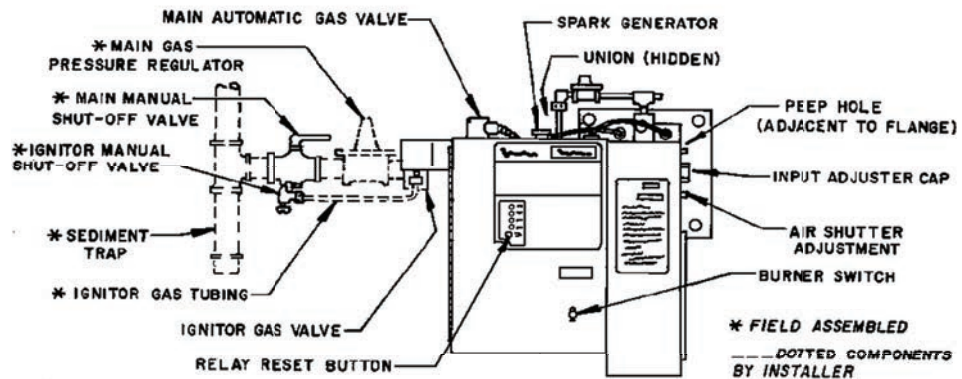

Figure 3 - Control Components
Use pipe joint compound resistant to liquid petroleum gases when using either NATURAL or PROPANE gas. Piping must comply with the local and national codes. If the burner piping must be rearranged because of space limitations, be sure to carry out the general configuration shown in Figure 3.
10. Remove the Input Adjuster Cap (see Figure 3) and turn the Main Gas Input Adjusting Screw until the desired input rating is reached (refer to Tables 2 or 3). Turning of adjustment screw counterclockwise increases gas flow; clockwise reduces gas flow. If Main Flame gas pressure requires adjustment, refer to Section V Piping.